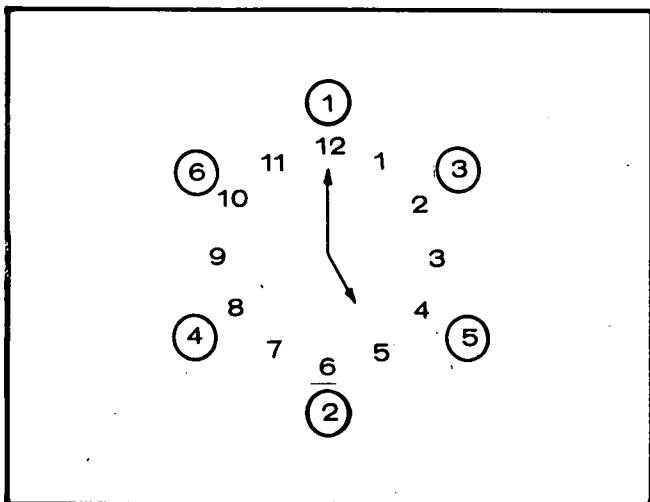

FIGURE 40. TIGHTENING HEAD BOLTS
5. Install the head assembly and gasket to the cylinder block. Tighten the head bolts in a "clockwise" manner starting with 12 o'clock and follow in the order shown around the "clockface" (Figure 40), finishing at the 10 o'clock position. Torque the bolts evenly to 44-46 foot-pounds.